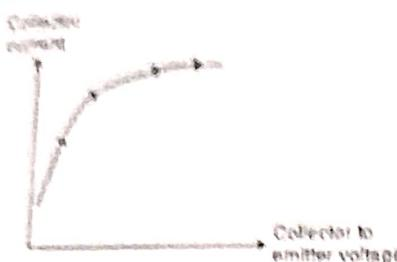

Fig. 2.12.4 : IGBT short circuit operation locus
- The relation between drain to source voltage and drain current is as shown in Fig. 2.12.4. When a short circuit occurs, the IGBT drain current increases.